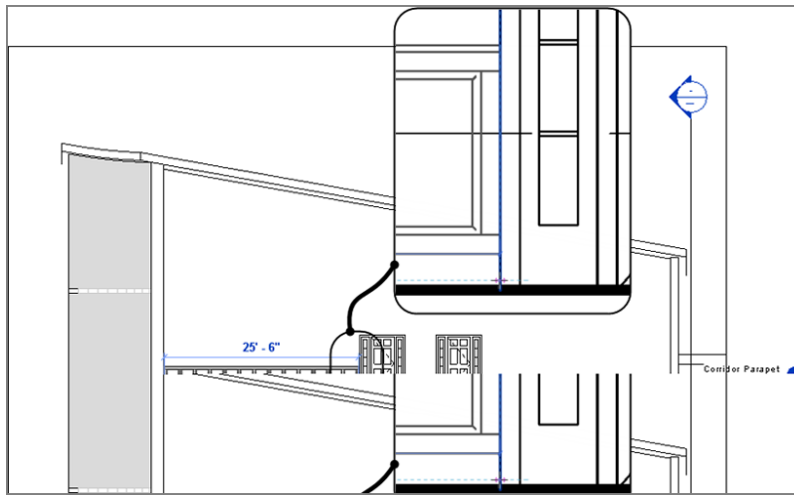

FIGURE 10.77: Adding the line-based, raised-panel family
16. On the Modify-Place Component tab, click the Place On Work Plane button, and pick the base point shown in Figure 10.77.
NOTE If you can't seem to pick the points specified in Figure 10.77, go ahead and pick two points close to the area indicated in the figure. After you place the line-based family, you can select it and grip-edit the ends to extend to the wall's edges as shown in the figure. Also, if the panels are too high, simply move them down to the floor or align them after the panels are in place.